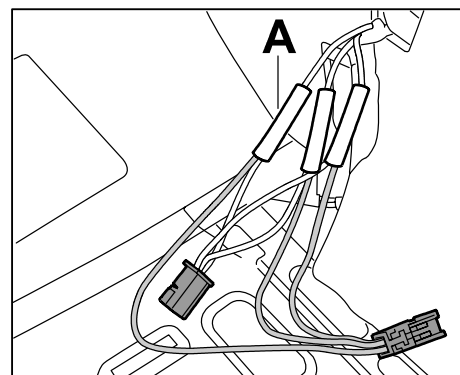

Figure 8
- 7.3.5 Slide shrink-fit hose over the cable connection and shrink the hose with a hot-air gun. ⇒ *Figure 8-A-*